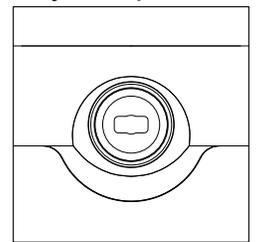

Figure 1
**1. For access requiring a key:** To require a key to open the dispenser, initially insert the key into the lock and turn the lock to the horizontal position as shown in Figure 1. A key will be required to open the dispenser when the lock is left in this position. This option is generally used in public restrooms where tissue or towel needs to be secured.
1. Open cover. Using two fingers, press “OPEN” on the top of the battery compartment cover and pull forward. Remove the battery box cover. (Figure 1)
#### Adjusting the Paper Activation Sensor (Figure 1-A)
#### Setting the Operating Mode (Figure 1-B)
#### Adjusting the sheet length (Figure 1-C)
1. When the paper roll volume is less than 5%, the yellow light will flash. (Figure 1)